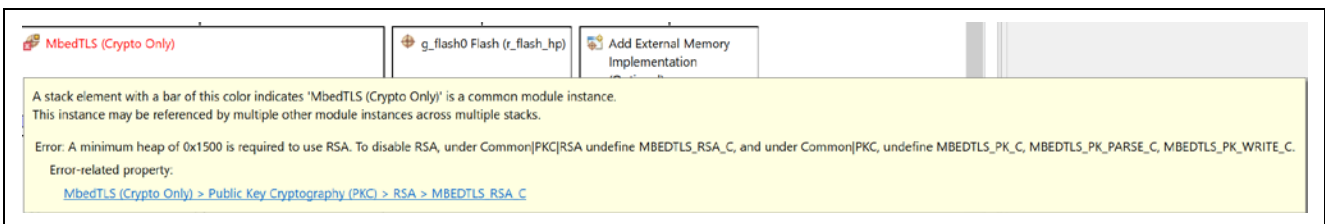

Figure 55. Dependencies of RSA
5. Disable RSA following the prompt in Figure 55. This bootloader design uses ECC for signature generation. Disable the RSA algorithm to save the BSP Heap size.